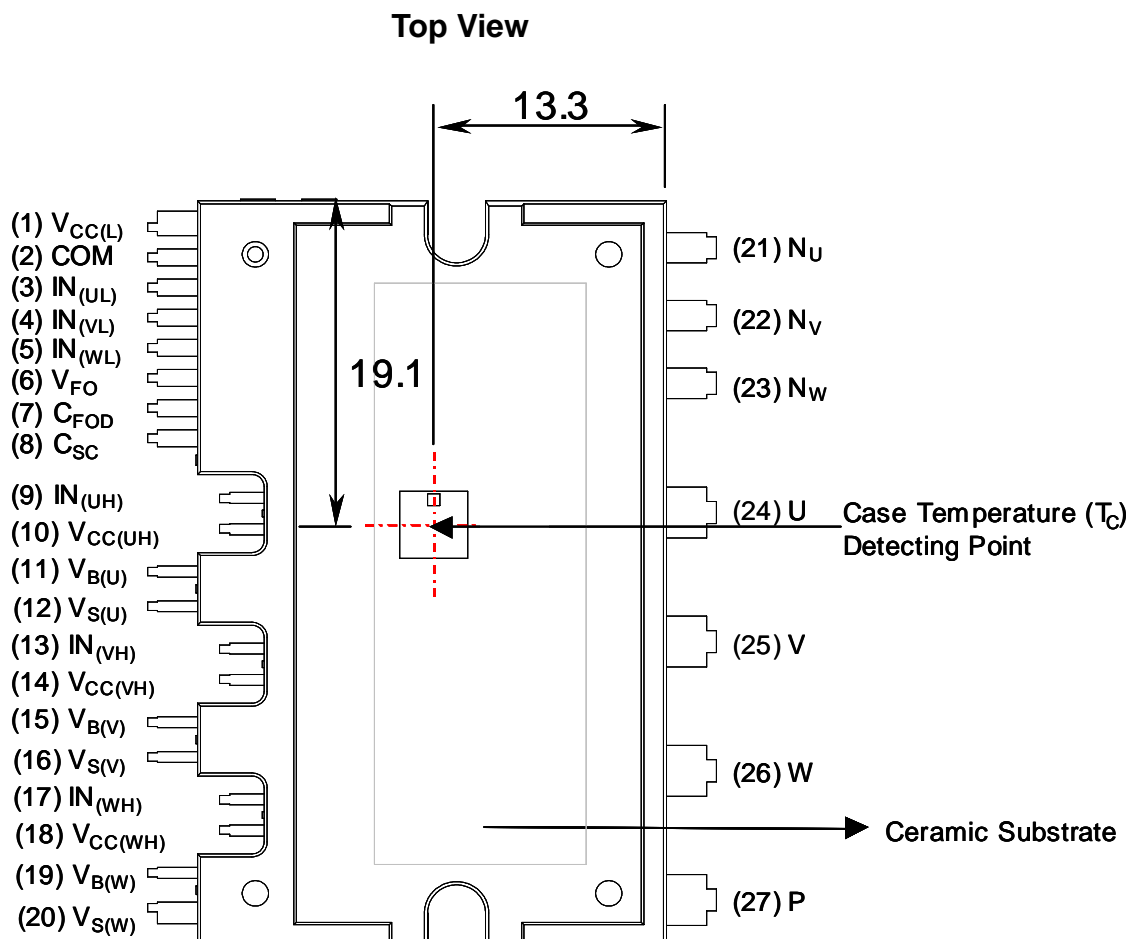

Figure 2.
2. For the measurement point of case temperature( $T_C$ ), please refer to Figure 2.